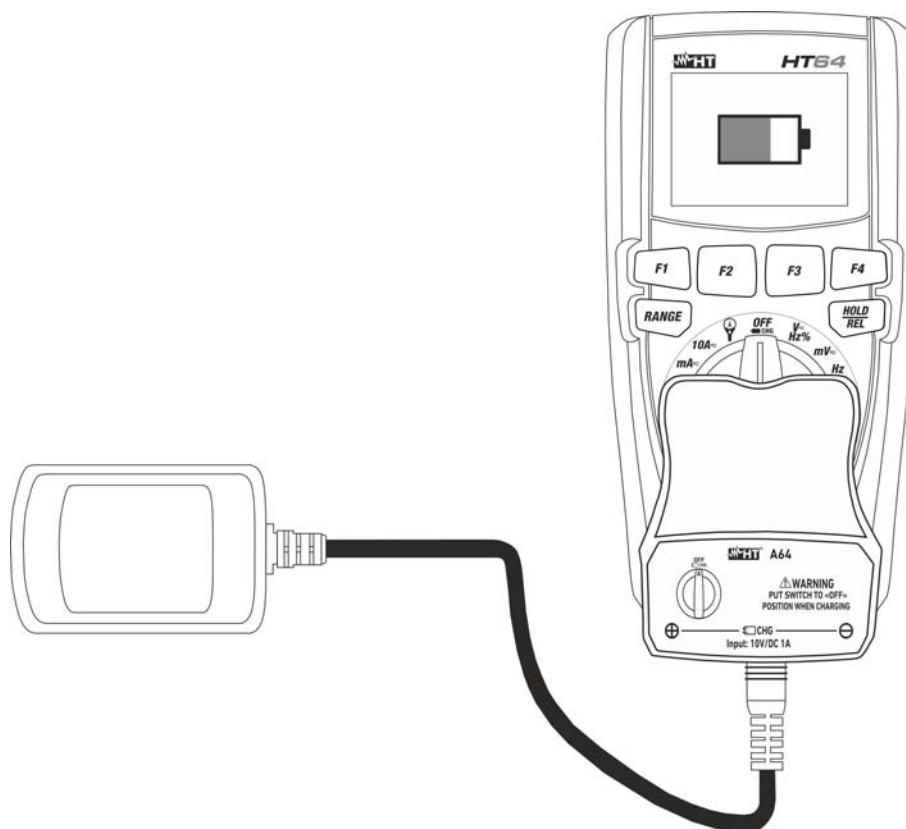

Fig. 33: Recharging the internal battery
2. Insert the adaptor of the battery charger power supply into the instrument, into the four input terminals (see Fig. 33).